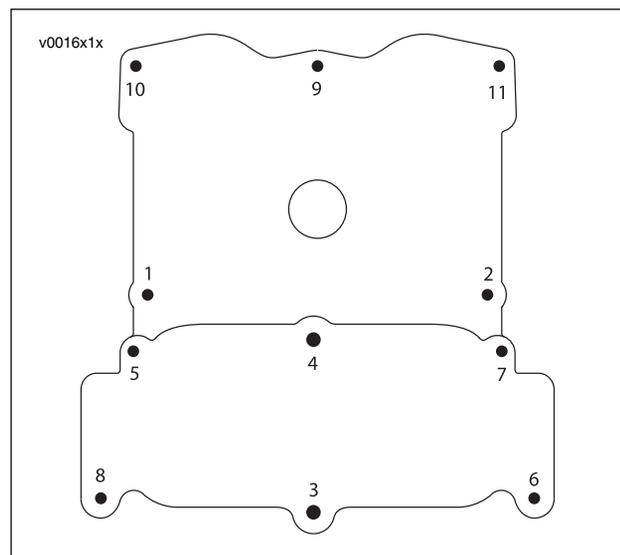

Figure 1-86. Cam Cover Torque Sequence
34. See Figure 1-86. Insert fasteners in cam cover and tighten to 9.7 Nm (86 in-lbs) in sequence.